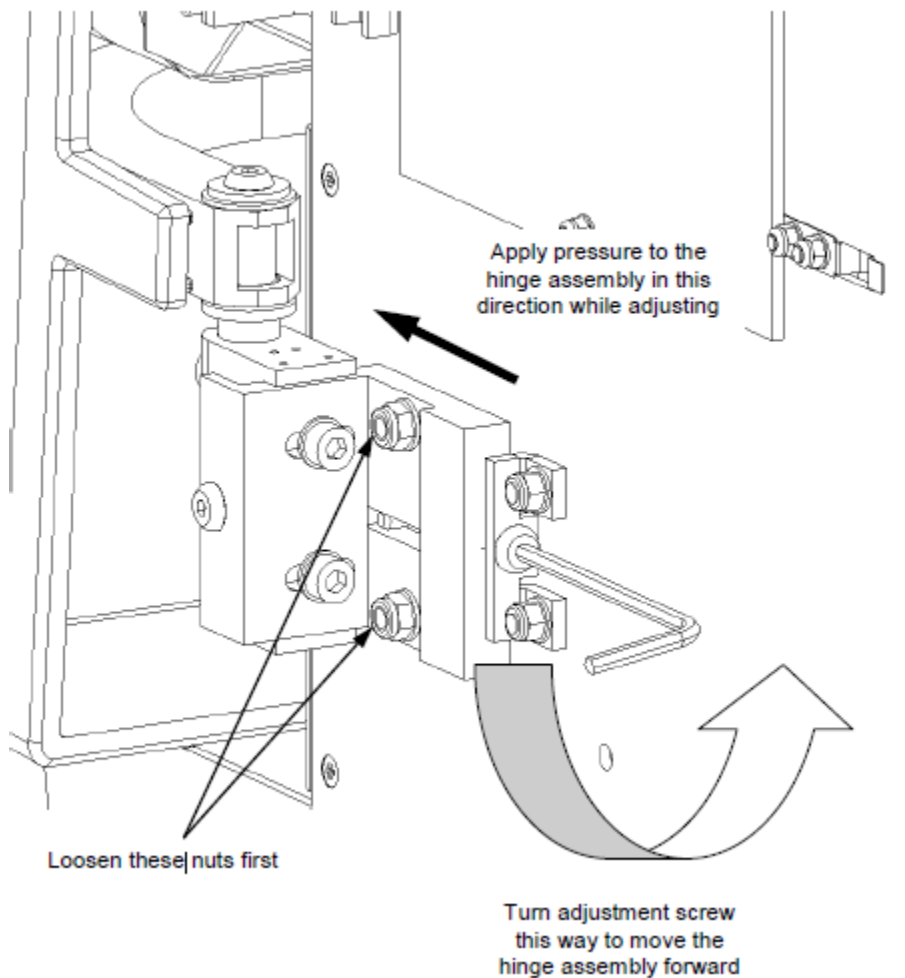

Figure D-8: Adjusting Right Hand Door
1. Remove the hinge body covers as described in Section D.2.1, steps (1) and (2).
2. To adjust the door forward, loosen the Nyloc Nuts securing the lower hinge to the Chassis (Figure D-8).